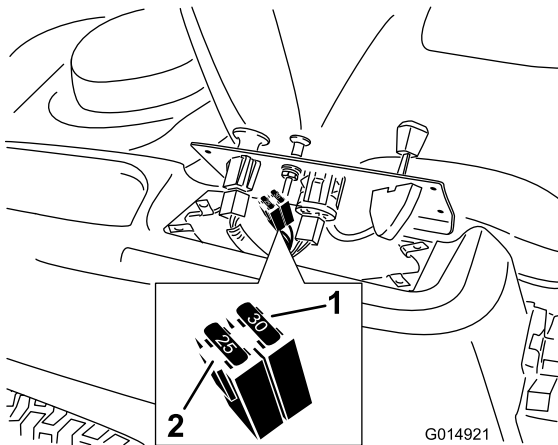

Figure 39
2. Lift the control panel up to access the main wiring harness and fuse block (Figure 39).
3. To replace a fuse, pull out the fuse to remove it (Figure 39).